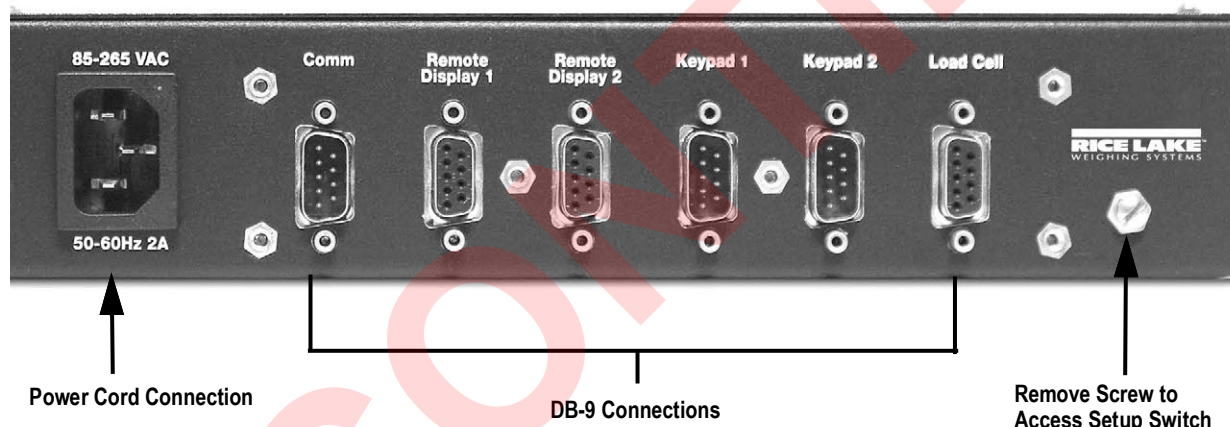

Figure 2-3. Tracer AV Power Cord Connection, DB-9 Connections and Setup Switch Access Screw
- The Tracer AV houses the AC power supply and CPU board. There are external DB-9 connectors for a PC connection, two remote display connections, two remote keypad connections, and a load cell connection (See Figure 2-3 on page 11).
To enter setup mode, remove the setup switch access screw on the Tracer AV (See Figure 2-3 on page 11). Once the screw is removed, use a small screwdriver or pen tip to press the setup switch. The display changes to show the word **DEFCAL**.
The Tracer AV provides several cable connections: one for the power cord, one to accommodate the load cell, communications, remote displays, and keypads. Figure 2-3 shows the assignments for the Tracer AV connections. Details on pin assignments are shown in Table 2-1 on page 9 through Table 2-5 on page 10.